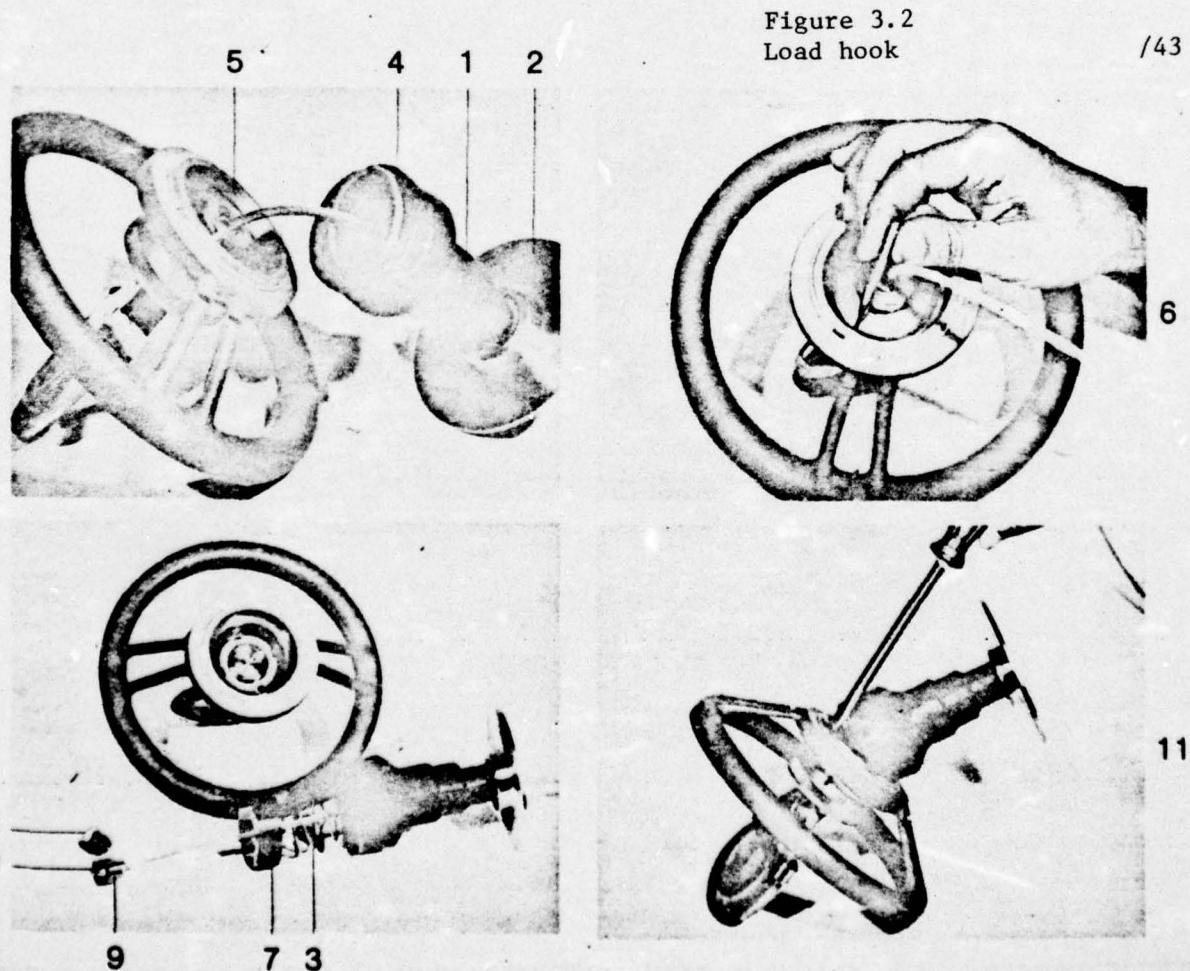

Figure 3.2
3. The load hook travels with the flange (2, Figure 3.2) attached above on the protective bellows (1, Figure 3.2) against the switch lever (4, Figure 3.20) and in this way actuates the first limit switch (1, Figure 3.20).
3.6.2 Exchanging the Load Hook (Figure 3.2), EGA Item 12